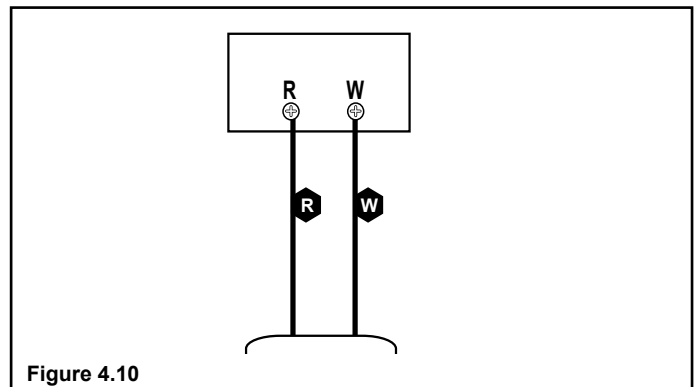

Figure 4.10
- Connect your thermostat wire to the W and R terminals. See Figure 4.10.